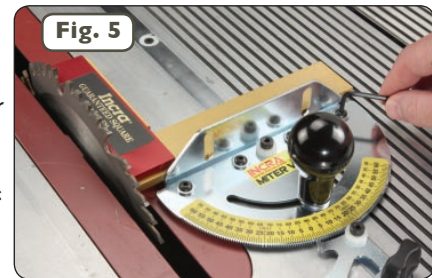

Fig. 5
5 Using the supplied 1/8" hex key, loosen the (4) button head fasteners that secure the faceplate to the protractor and, depending on your application, square the faceplate to the blade, miter slot, sanding belt, etc. **NOTE:** When squaring to a saw blade (see **Figure 5**), use a reliable square for this important alignment. Securely retighten the (4) button head fasteners to complete the alignment.